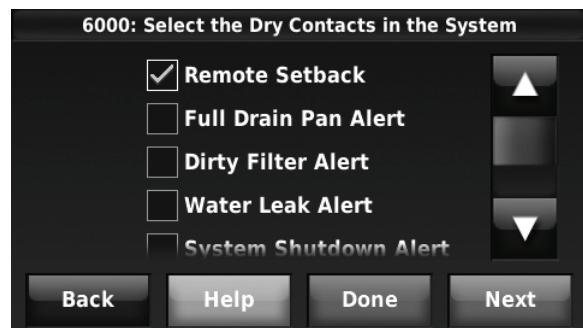

Fig. 305.
1. Select "Remote Setback" as shown in Fig. 305.